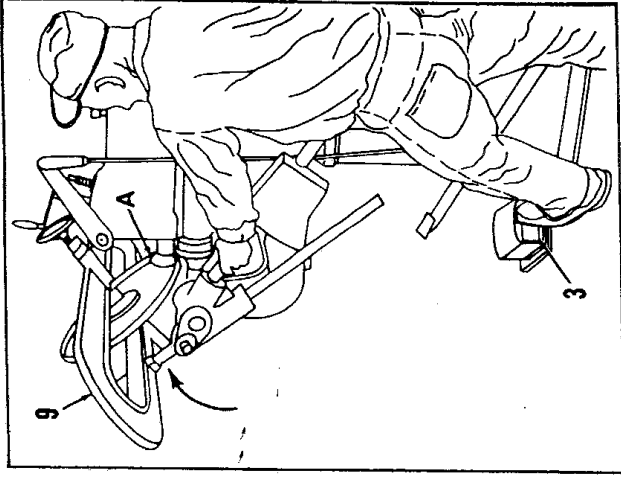

Fig. 13
4. With former still operating, tilt the flanging attachment (9) (Fig. 13) until desired angle of flange is made.